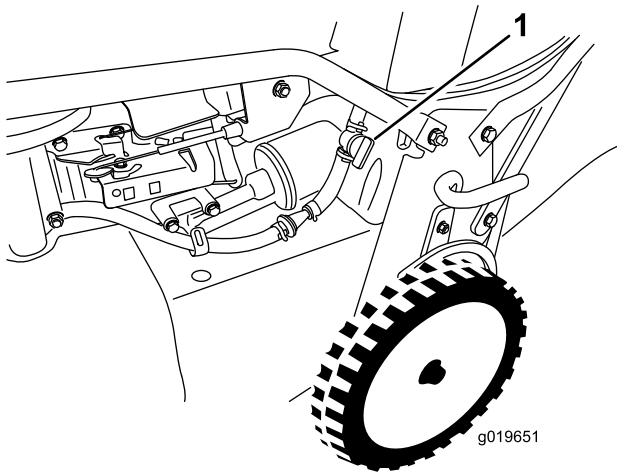

Figure 17
2. Open the fuel-shutoff valve (Figure 17).